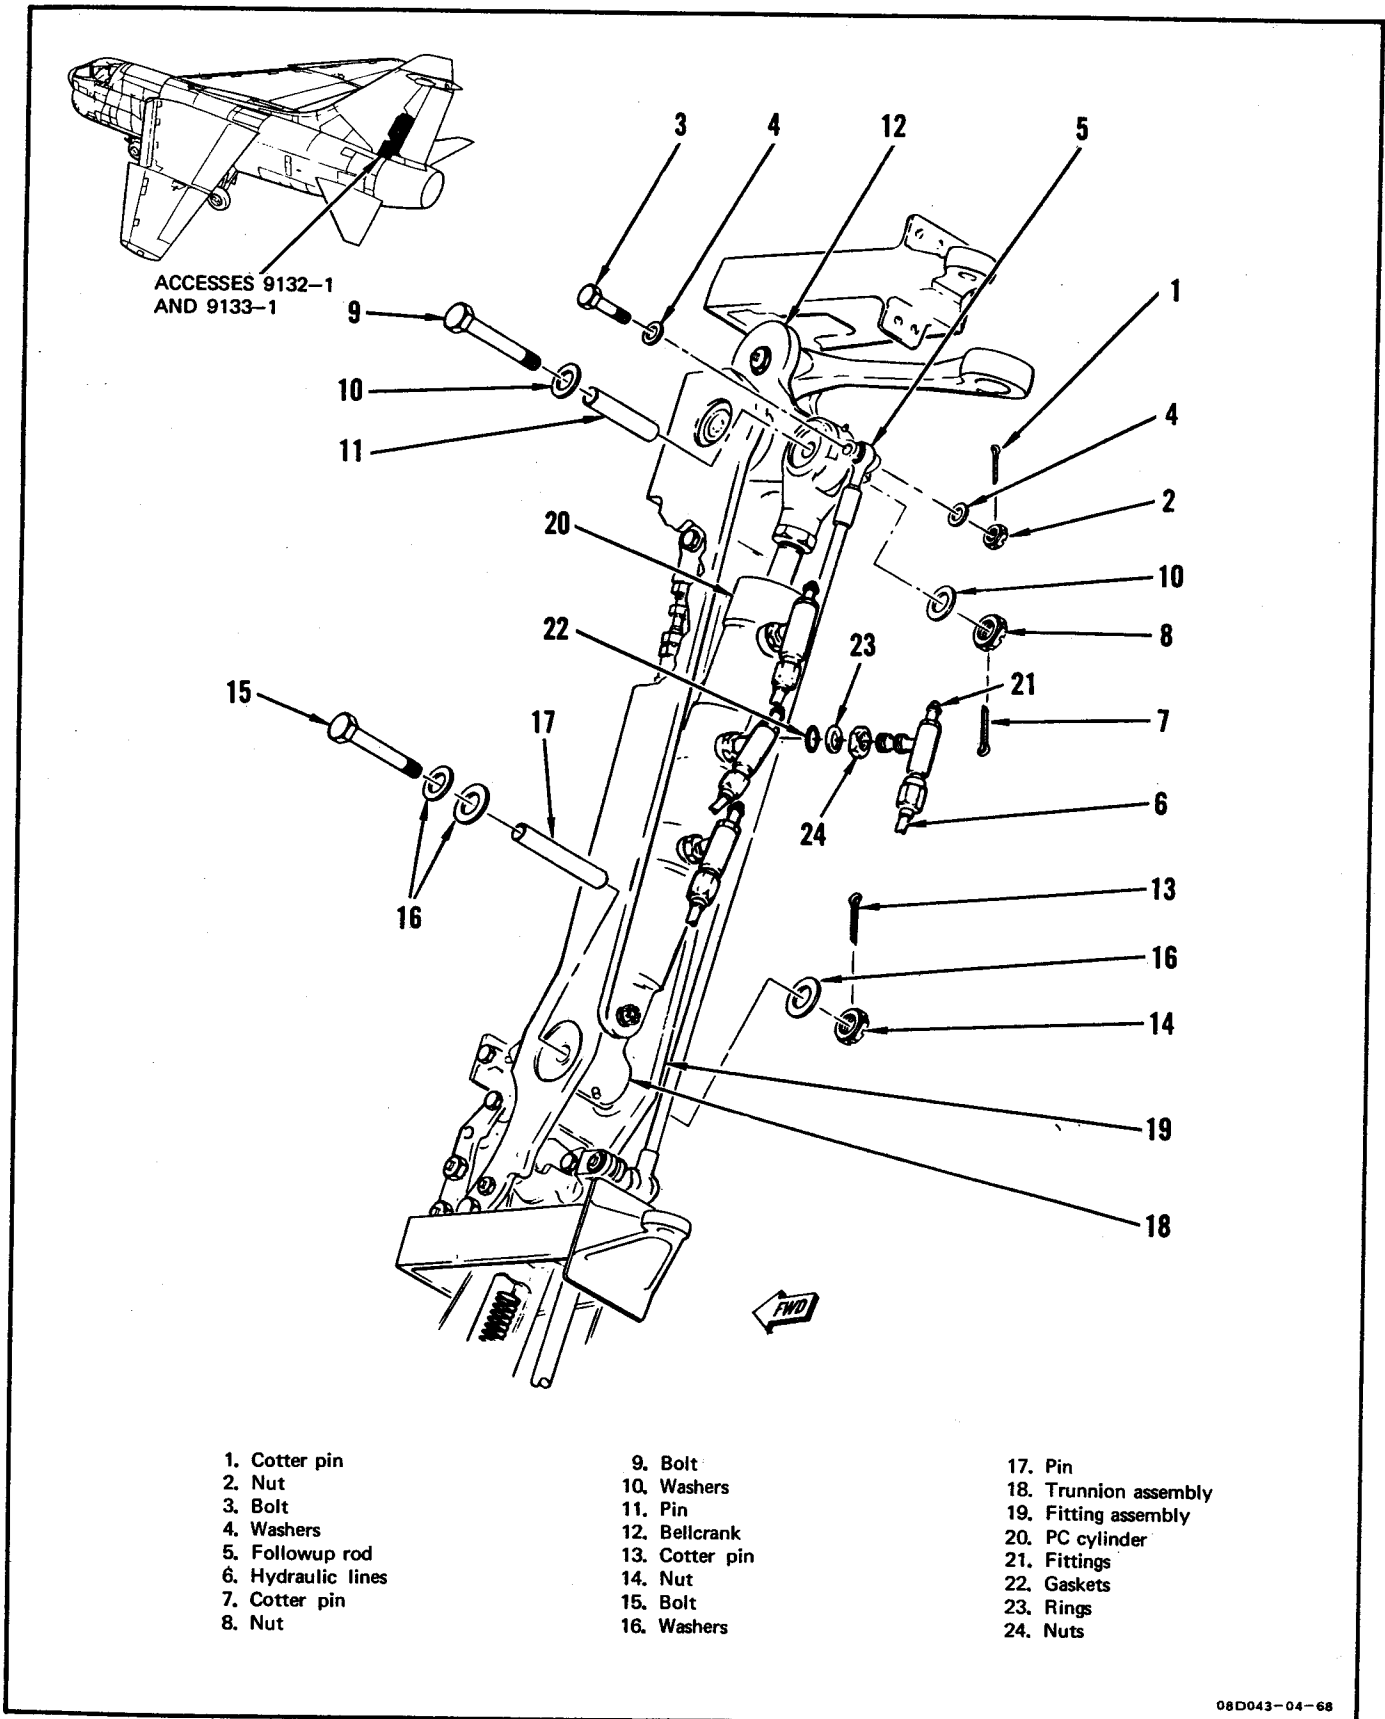

Figure 5-15. Rudder PC Cylinder Removal and Installation
d. Align servo valve lower mounting lug with airplane fitting and secure with self-retaining bolt (13) (paragraph 2-95), washers (11), spacer (12), counterbored washer (10), nut (9), and new cotter pin (8). Joint shall be free to rotate.
e. Connect input rod (7) to servo valve using bolt (6), washers (5), nut (4), and new cotter pin (3).
f. Install backlash spring (2).
g. Connect hydraulic lines (1) to servo valve fittings.
**5-69. RUDDER PC CYLINDER REMOVAL AND INSTALLATION.** (See figure 5-15.)
5-70. REMOVAL. (See figure 5-15.)
Hold followup rod (5, figure 5-15) firmly while removing bolt (3). Bottom piston slowly to prevent damage.
e. Remove cotter pin (1), nut (2), bolt (3), and two washers (4) securing followup rod (5) to cylinder rod end.
f. Disconnect four hydraulic lines (6) from cylinder.
g. Remove cotter pin (7), nut (8), bolt (9), two washers (10), and pin (11), securing bellcrank (12) to cylinder rod end.
h. Remove cotter pin (13), nut (14), bolt (15), three washers (16), and pin (17) from trunnion assembly (18) and fitting assembly (19).
i. Remove PC cylinder (20).
j. Secure loose end of followup rod (5) to support fitting.
5-71. INSTALLATION. (See figure 5-15.)